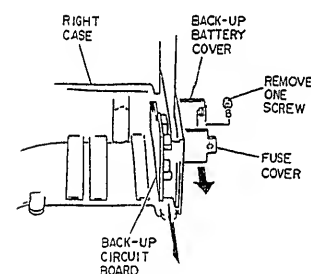

Fig. 2-18
2. Remove one (1) screw holding the fuse cover. (See Fig. 2-18)